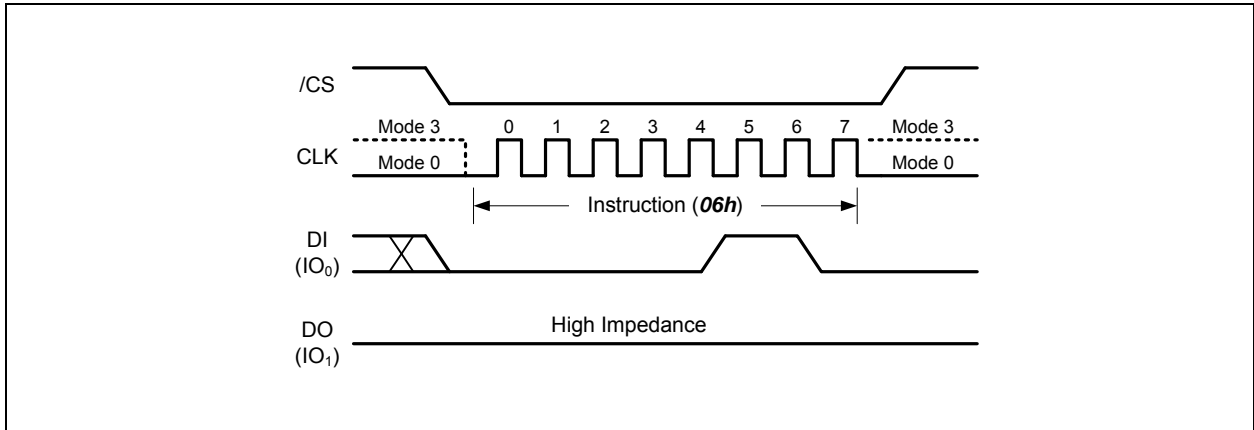

Figure 9. Write Enable Instruction
The Write Enable instruction (Figure 9) sets the Write Enable Latch (WEL) bit in the Status Register to a 1. The WEL bit must be set prior to every Page Program, Quad Page Program, Block Erase and Write Status Register instruction. The Write Enable instruction is entered by driving /CS low, shifting the instruction code “06h” into the Data Input (DI) pin on the rising edge of CLK, and then driving /CS high.